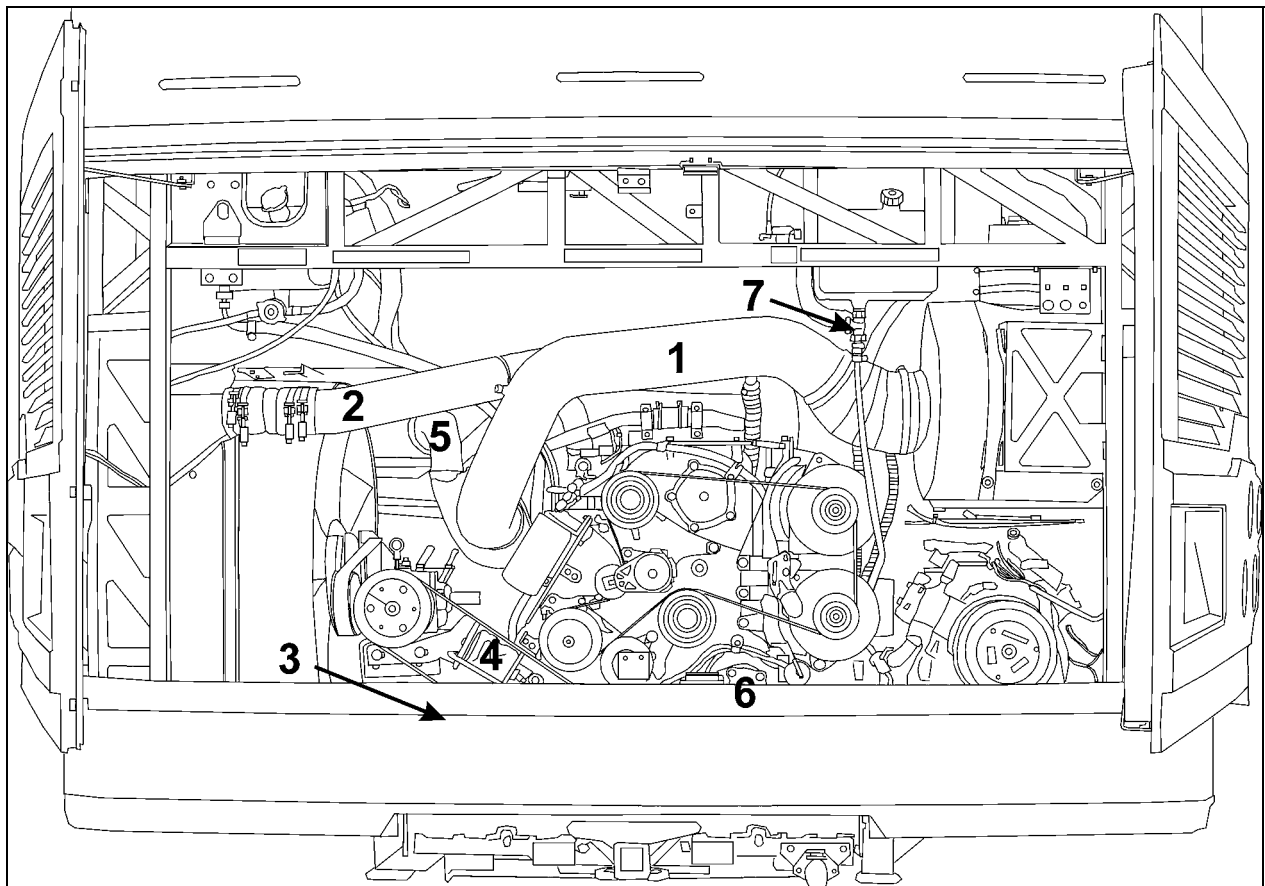

FIGURE 16: ENGINE COMPARTMENT X3 COACHES (TYPICAL)
6. Disconnect and remove the engine-air intake duct mounted between air cleaner housing and turbocharger inlet (1, Fig.16).
7. Disconnect and remove the air intake duct mounted between the air cooler outlet and the engine intake (2, Fig.16).
8. Disconnect and remove section of coolant pipe assembly mounted between the radiator outlet and the water pump inlet (3, Fig.16).
10. Disconnect the electric fan-clutch connector located near the gearbox (Fig. 16).
11. Dismantle the air bellows from the upper bracket of the fan-drive assembly tensioner. Remove the upper bracket (4, Fig.16).
13. Disconnect and remove the air intake duct mounted between the turbocharger outlet and the air cooler inlet (5, Fig. 16).
20. Disconnect the power steering pump supply and discharge hoses. Cap hose openings immediately to limit fluid loss. Remove retaining clips from cradle (6, Fig. 16).
21. Disconnect the oil delivery hose from the valve located at the reserve tank drain (7, Fig. 16).